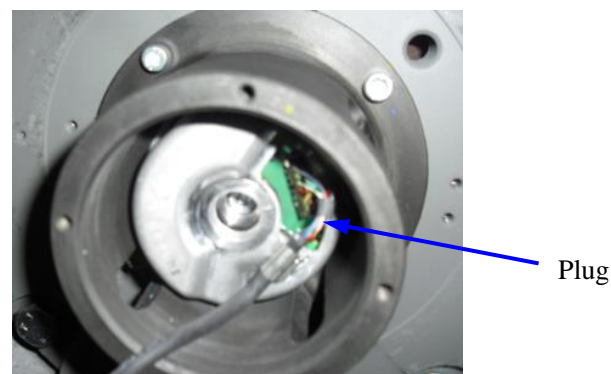

Figure 17: Plug removal
3. Pull out the plug. (If applicable) See Figure 17.